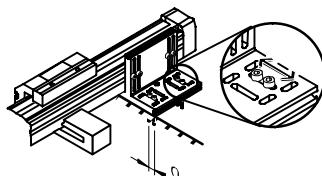

Fig. 7: Q = Side play
- Tighten the fastening screws for diagonal fastening at first only slightly (see Fig. 7: Q).
- Now tighten the fastening screws (see Fig. 7: Q) of the guide axis.